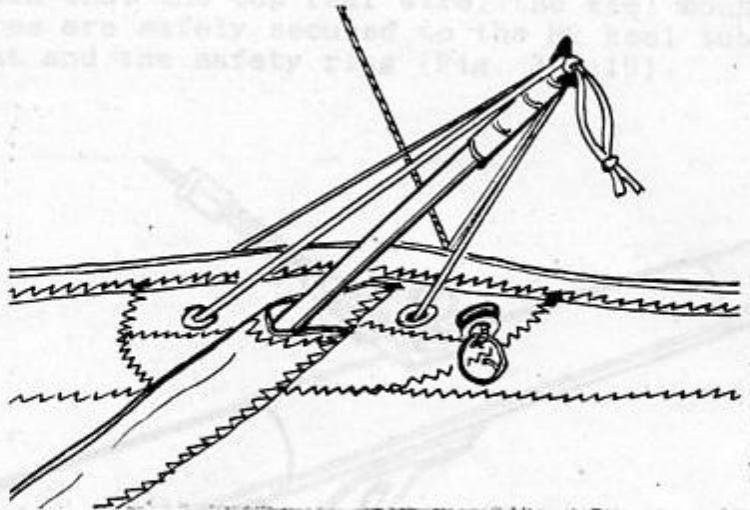

Fig. 3.4.8.
8. Check that each of the washout wires is free from the batten tension leech lines and the washout safety ring is flush with the bottom of the sail (Fig. 3.4.8).